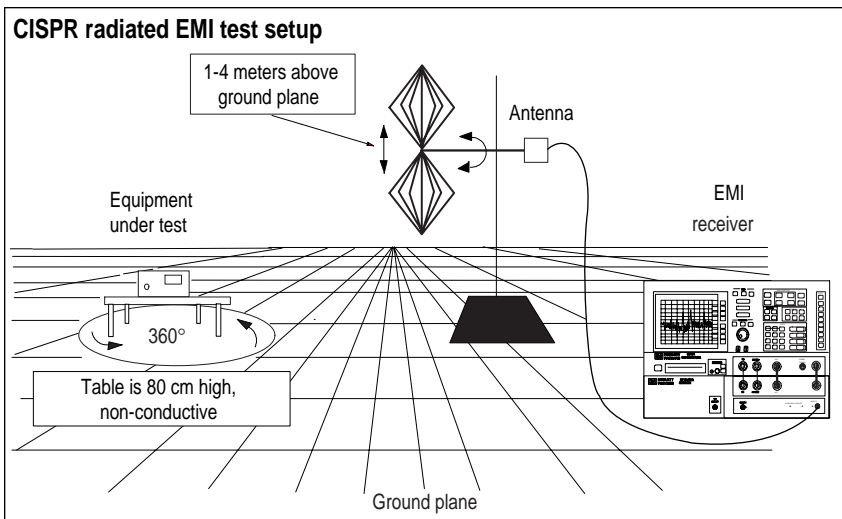

Figure 14: Radiated test setup.
1. Arrange the antenna, EUT and EMI receiver as shown in Figure 14. Separate the antenna and the EUT by 3 meters (10 meters if the regulation calls it out). CISPR and ANSI require your EUT to be in worst case mode of operation (i.e. attached cables, monitor, scrolling Hs across the monitor, etc.)